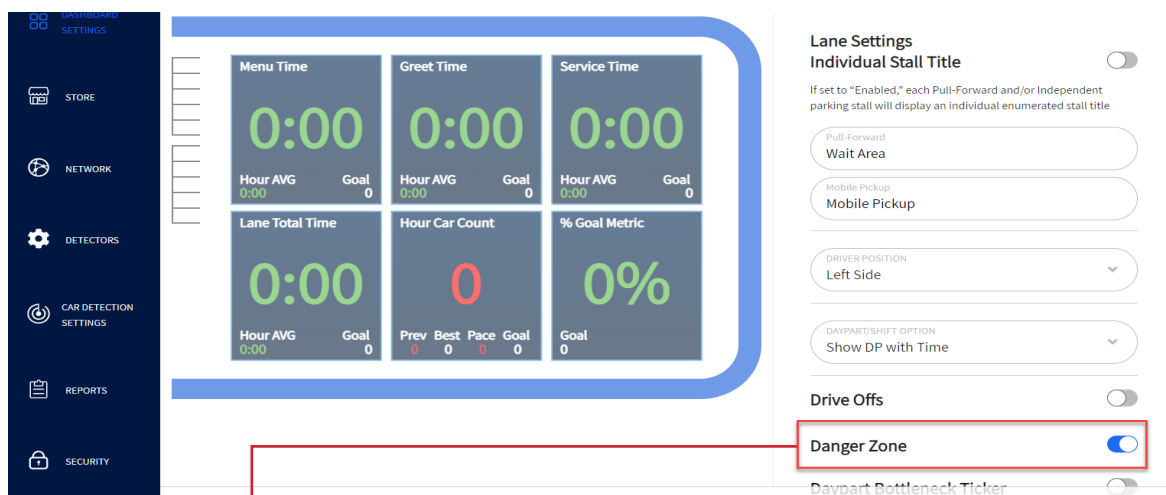
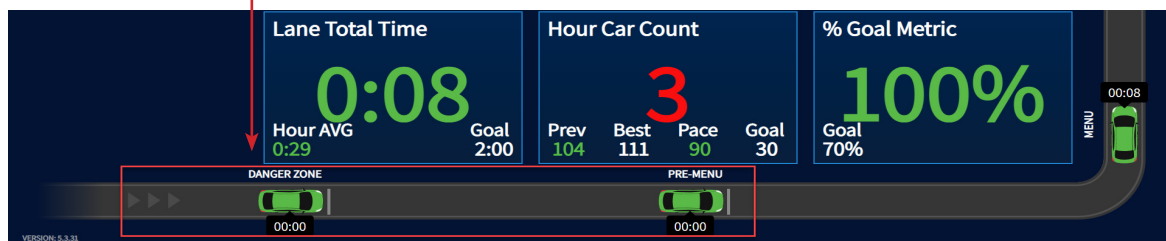

Fig. 3.11
Fig. 3.12
**Danger Zone:** This is a Region Of Interest (ROI), which includes the Pre-Menu zone and is an area of the drive-thru lane where vehicles can still pull out and drive off before reaching the menu ordering point. When this feature is enabled (Fig. 3.11), the Danger Zone is displayed on the main Dashboard as a part of the drive-thru lane (Fig. 3.12).